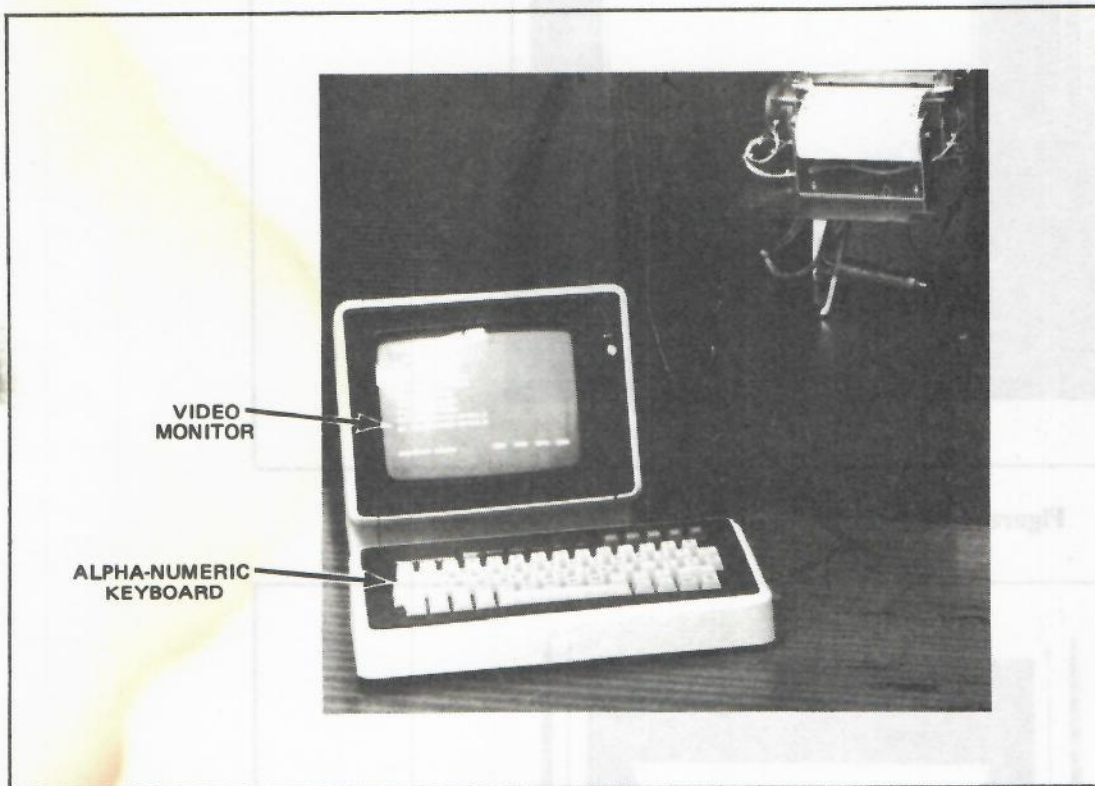

Figure 1-20. Customization Equipment
2. TP 110 alpha-numeric keyboard. This contains the full set of symbols that are necessary in order to use the Customizer program. Refer to figure 1-20.